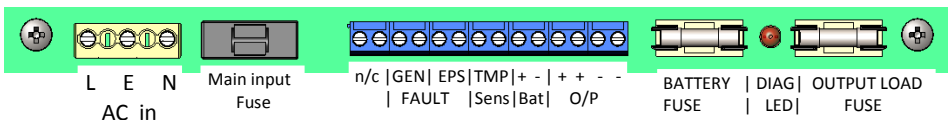

Figure 5 – Terminal labels
- 14) Connect the battery temperature sensor (two white wires) to the PCB terminals TMP Sens. See Figure 5.
- 15) If the batteries are housed remotely, replace the battery lead assembly (including battery temperature sensor) with an extended length assembly, provided with the Battery box (Ensure the temperature sensor and battery connections are made according to figure 5).